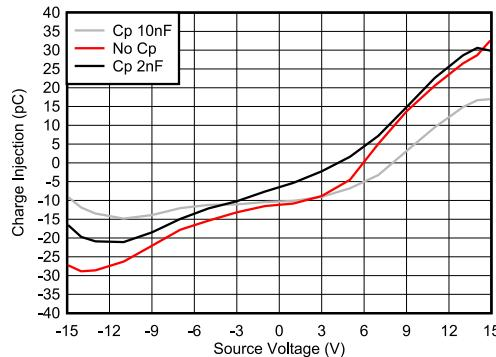

Figure 8-2. Charge Injection Compensation
The TMUX620x contains specialized architecture to reduce charge injection on the Drain (Dx). To further reduce charge injection in a sensitive application, a compensation capacitor (Cp) can be added on the Source (S). This will push excess charge from the switch transition into the compensation capacitor on the Source (S) instead of the Drain (D). As a general rule, Cp should be 20x larger than the equivalent load capacitance on the Drain (D). Figure 8-2 shows charge injection variation with different compensation capacitors on the Source side. This plot was captured on the TMUX6219 as part of the TMUX62xx family with a 100pF load capacitance.